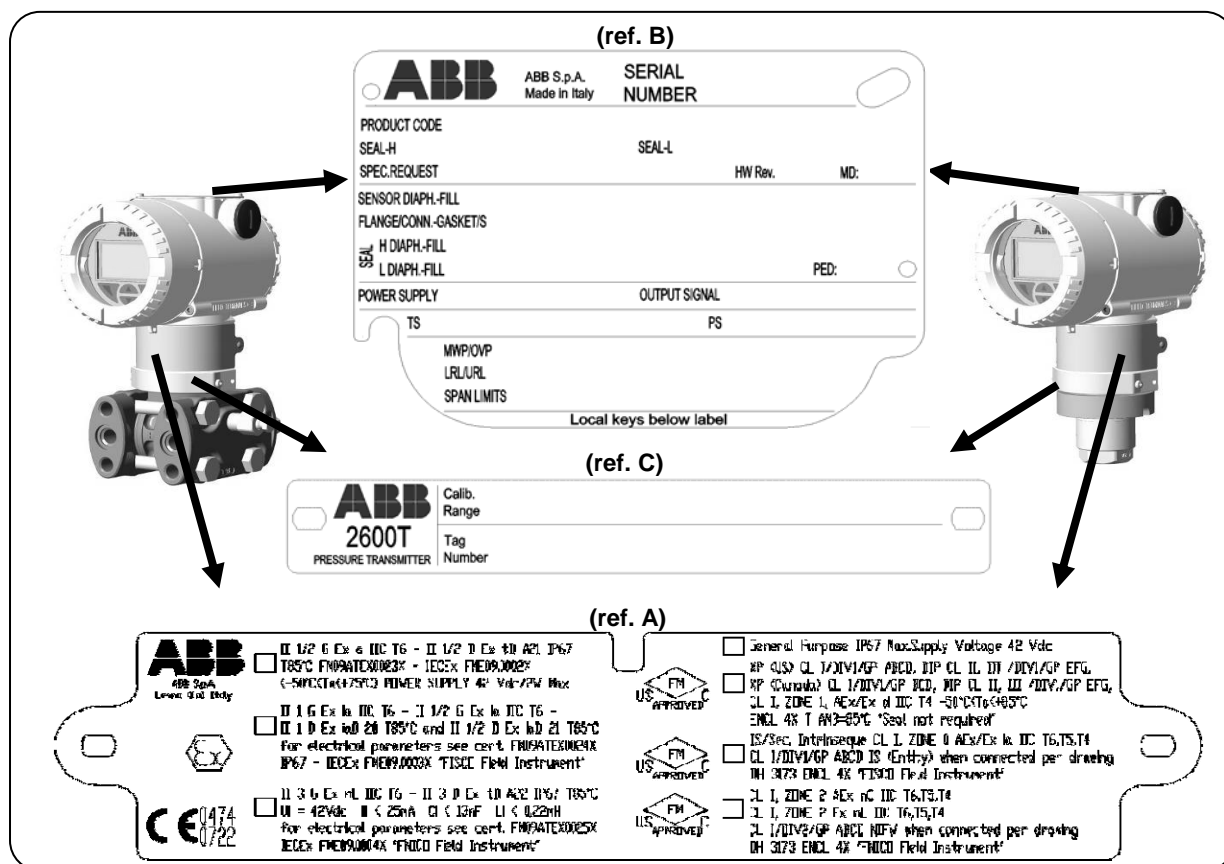

Fig. 1 - Product Identification
- The instrument is identified by the data plates shown in Figure 1. The certification plate (ref. A): contains the certification related parameters for use in Hazardous area.
The transmitter must be installed in hazardous area only if it is properly certified. The certification plate is permanently fixed on the side of the transmitter top housing (as shown by the figure 1).